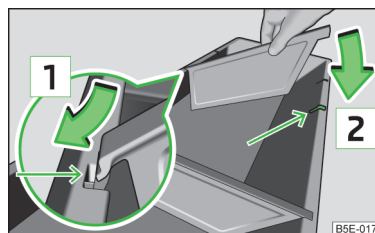

Fig. 92 Storage box: Insert lateral carrier rail
- Insert the catches on the lateral carrier rail underneath the front edge of the box **1** in the direction of the arrow » Fig. 92.